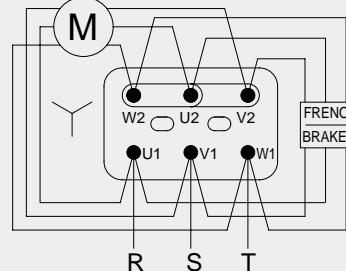

Fig. 17
#### Collegamento stella (Y): (fig. 17)
#### Delta connection (Y): (fig. 17)